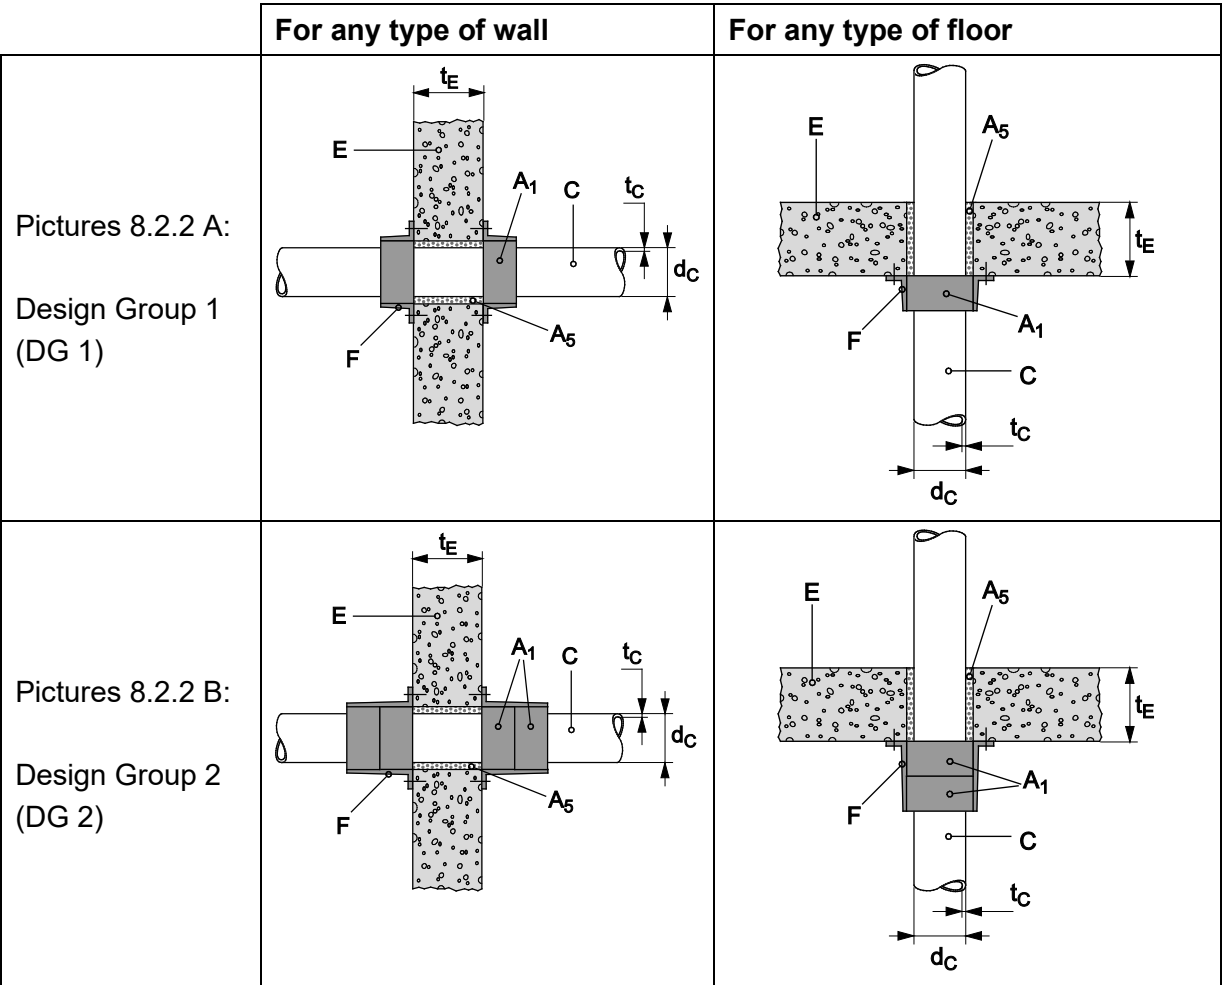

Figure 7: Design Groups of CFS-C EL in wall/floor application
The Design Group (DG) defines the application, see Figure 7.